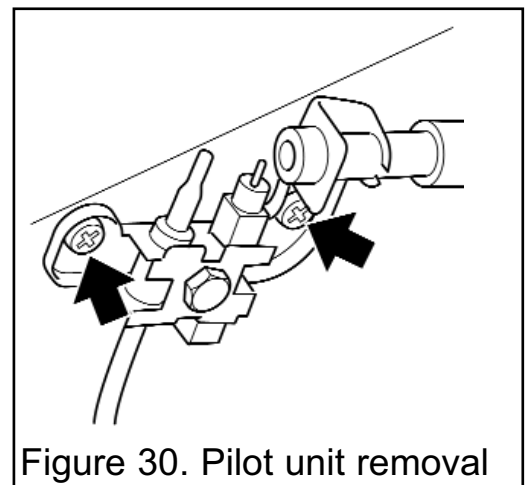

Figure 30. Pilot unit removal
6. Remove the two screws securing the pilot unit (See figure 30).